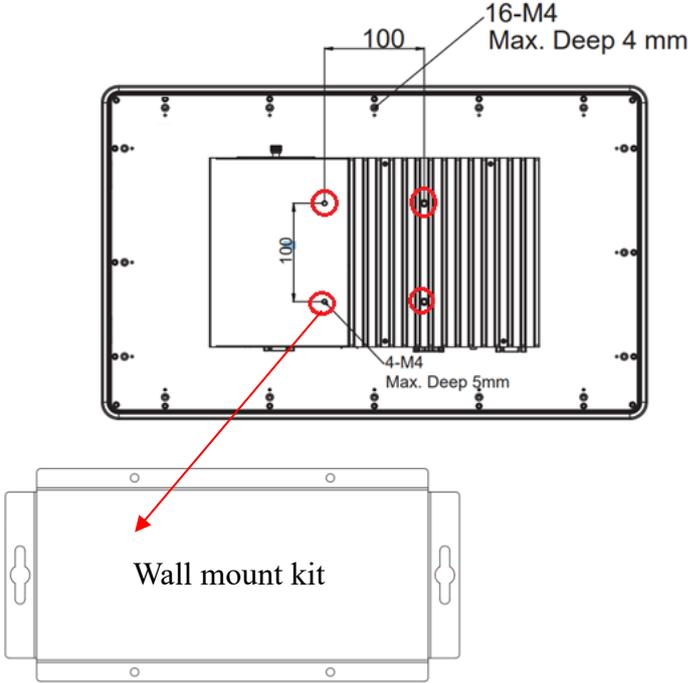

**Figure 2-6: Screwing the Panel PC firmly to the panel frame.**
**Step 4** As Figure 2-6 below illustrates, use the panel mount kits to secure the panel PC in the panel frame. Insert the screws through the hook brackets into the corresponding holes on the back chassis of the panel PC. Tighten the screws to fix the panel PC firmly into the panel frame.